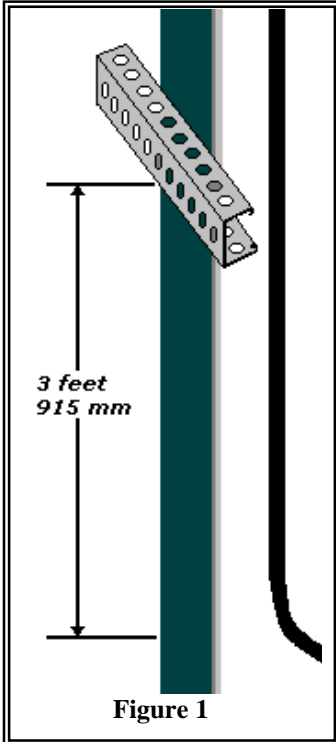

Figure 1
1. Measure three ft (915 mm) above the bottom of the compensating cable loop and mark a spot on the back of the CWT guide rails (Figure 1).